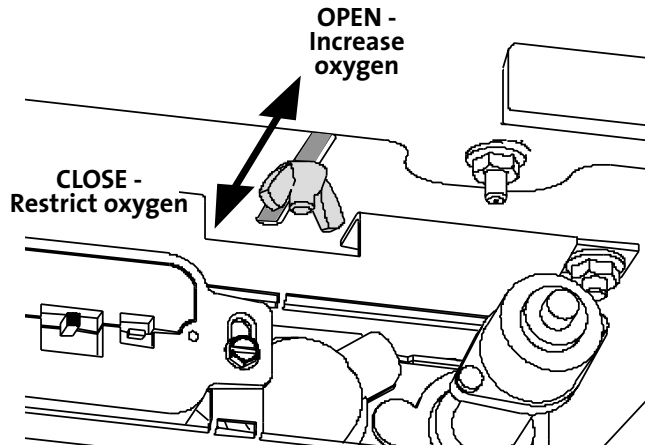

Figure 14.1.
1. Open the front door to access the air shutter. Open the Controls Access Door and loosen the wing nut shown in fig. 14.1. Slide the wing nut stud forward toward yourself to open the air shutter and back to provide less air. Before making any adjustments, start at the mid-point of the total range of adjustment.